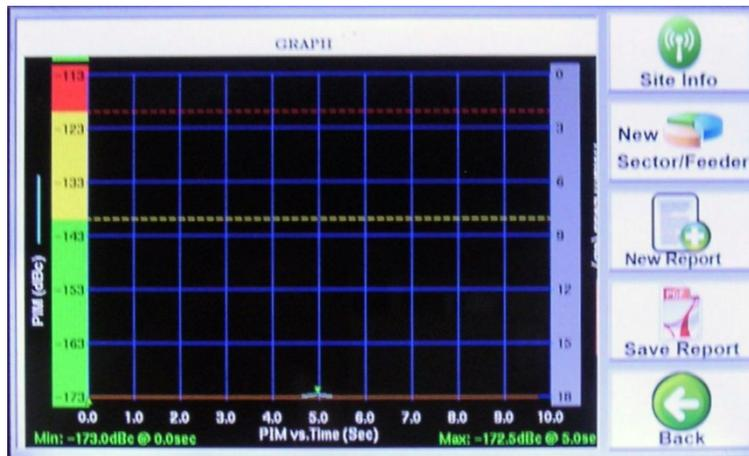

Figure 55 - PIM & Return Loss vs. Time Plot in Report Window
- c. Test results including Test Point Label, time, PIM Reading (dBm), Return Loss, PIM & Return Loss vs. Time Plot (see **figure 55**), and Comment.